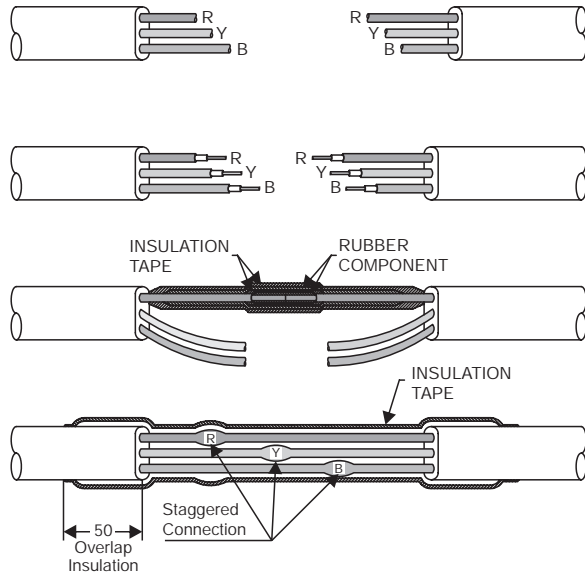

Fig. 1
- Colors of the leads, which are to be joined together must be identical as per following sketch (Fig. 1).